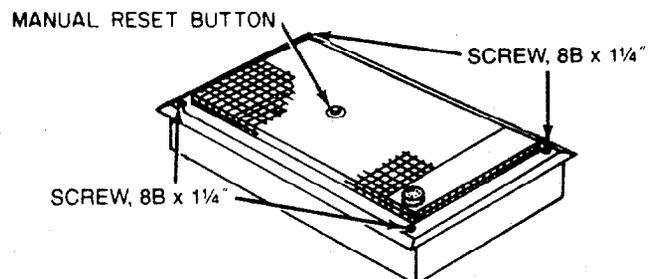

Figure 6 — Securing Heater
4. Assemble heater into rough-in box using the four screws supplied (see Figure 6.)